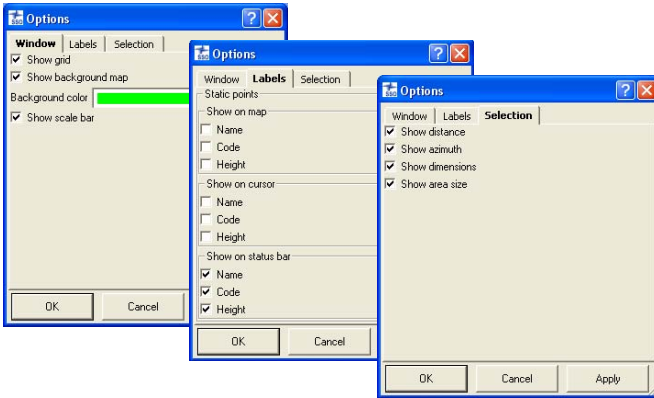

Figure 4-34. Window, Labels, Selection Tabs of the CAD View Options
1. Right-click on an empty portion of the CAD View and click **Options** on the pop-up menu. The Options dialog box displays (Figure 4-34).
2. On the *Windows* tab, check mark the desired settings (Figure 4-34). Click **Apply** to apply the changes, then click **OK** to save the settings and make further changes.
3. On the *Labels* tab, enable the desired settings (Figure 4-34 on page 4-31). Click **Apply** to apply the changes, then click **OK** to save the settings and make further changes.
4. On the *Selection* tab enable the desired settings (Figure 4-34 on page 4-31). Click **Apply** to apply the changes, then click **OK** to save the settings and make further changes.